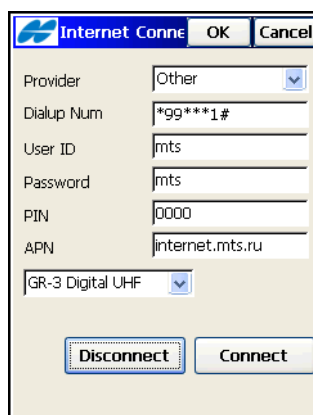

Figure 4-46. Internet Connect
14. Tapping the red icon  next to the **OK** button on the *Config Modem* screen will open the *Internet Connect* screen (Figure 4-46).